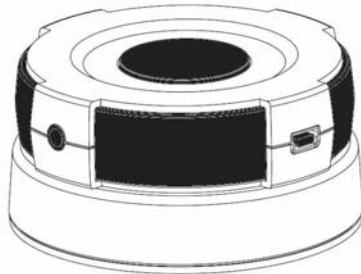

Figure 1 ZXT-120
The ZXT-120 is a Z-Wave to air-conditioner (AC) IR Extender (Figure 1) and it works with any Z-Wave compliant gateway or portable controller by translating Z-Wave's Thermostat commands to AC IR control code. The user can set the IR code from the built-in code library of ZXT-120 through the configuration commands. ZXT-120 also built-in a temperature sensor that allow to report the current room temperature to home gateway.